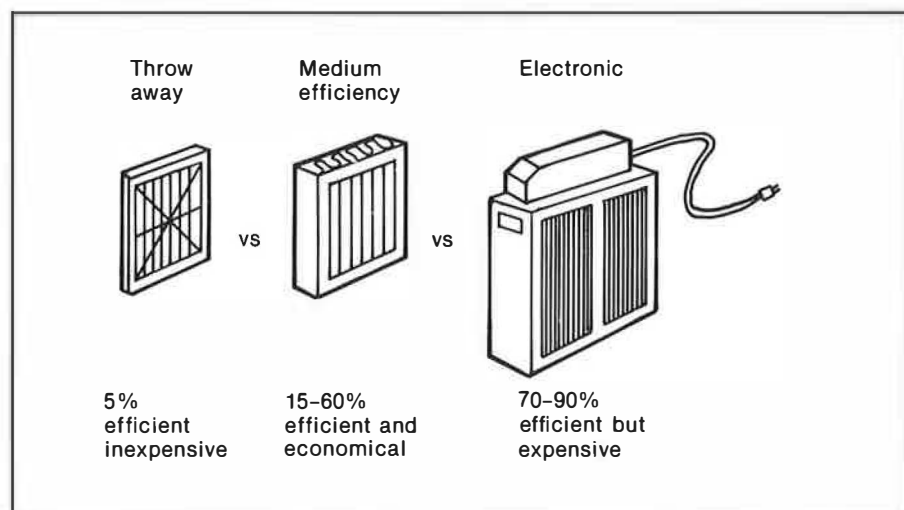

Fig. 14. Filter types.
- Investigate various types of filtration systems. Typical throw-away furnace filters are only 5% efficient. Electronic air cleaners are highly effective in removing dust and even cigarette smoke, but are costly. Medium efficiency filters are just beginning to be used in residential applications and may prove to be cost-effective in improving indoor air quality. Note that greater resistance to flow may require higher fan speeds (fig. 14).